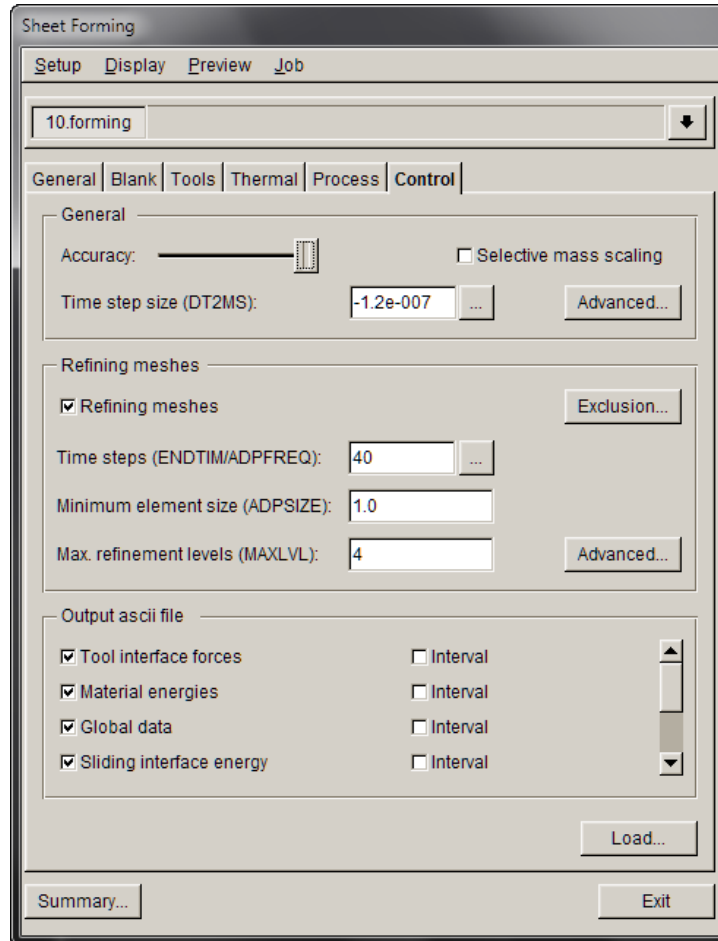

Figure 50
1. Click **Control** to define control parameters. See Figure 50.